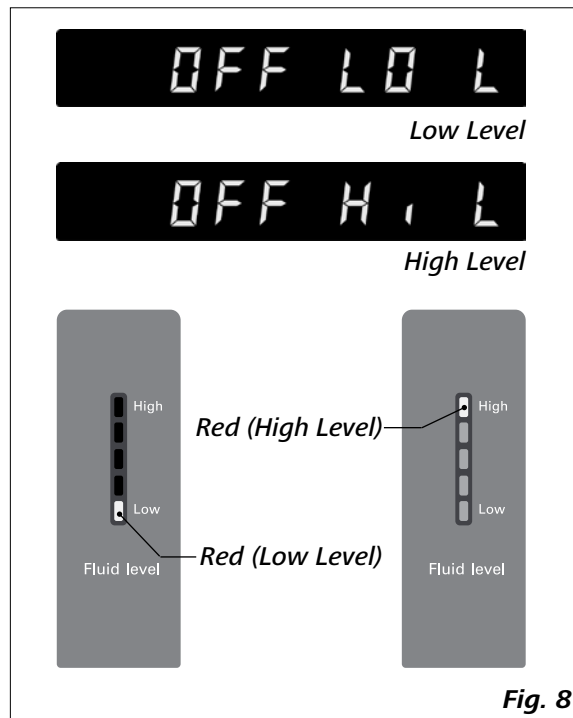

Fig. 8
- The low level warning message appear on the display. Meanwhile, the bottom LED segment of the lights up in red color to indicate the low fluid level (see Fig. 8).
Note: Pay attention to the fluid level information on the display and fluid level indicator (see Fig. 8).